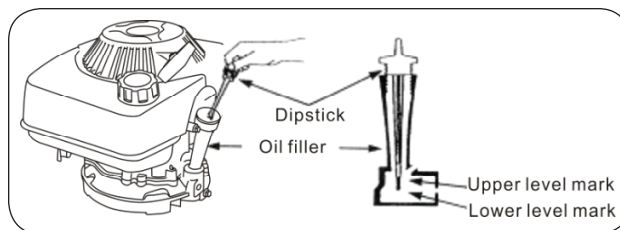

FIGURE 3
Procedure in checking oil level should be taken as follows: **SEE FIGURE 3**
4. If the oil level is too low, add recommended engine oil to the upper level on the dipstick. **SEE FIGURE 3**